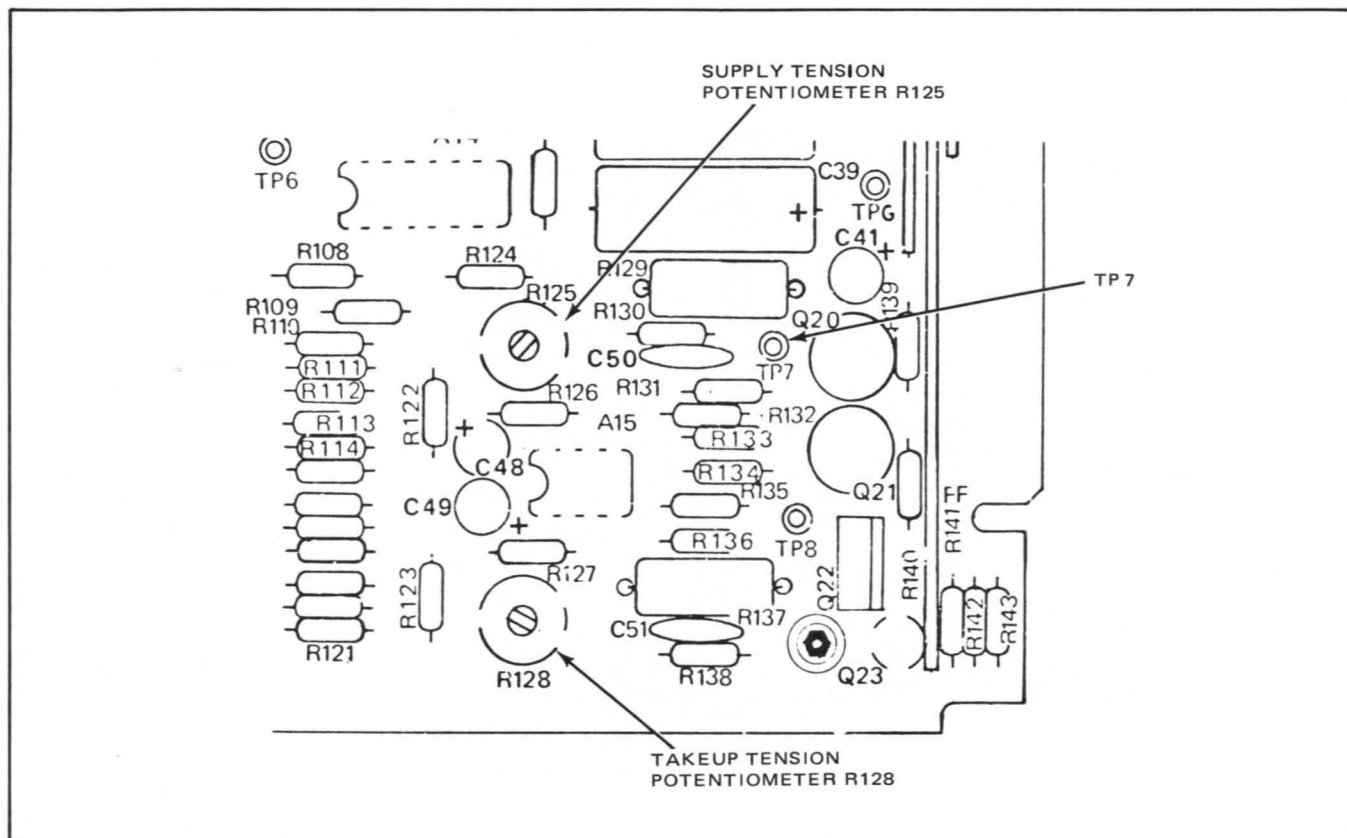

Figure 5-24. Tape Tension Adjustment Controls, PWA No. 9
2. With power off, place reel servo PWA No. 9 (Figure 5-24) on an extender board.